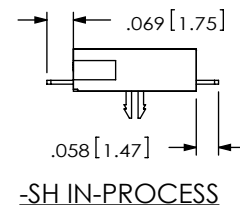

FIG 3
-SH: SINGLE HORIZONTAL (SEE FIG 3, SHT 2)
(DIFFERENT AS SHOWN, OTHERWISE SAME AS FIG 3)